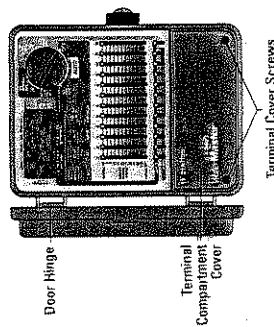

FIGURE 21: Outdoor Timer, Showing Terminal Cover
- Take off the terminal compartment cover by unscrewing the two screws and pulling the plastic cover forward. [See figure 21], this reveals the AC Power Cover [Figure 23].
- Take off the terminal compartment cover of the controller by unscrewing the two screws and pulling the plastic cover forward. [Figure 21].